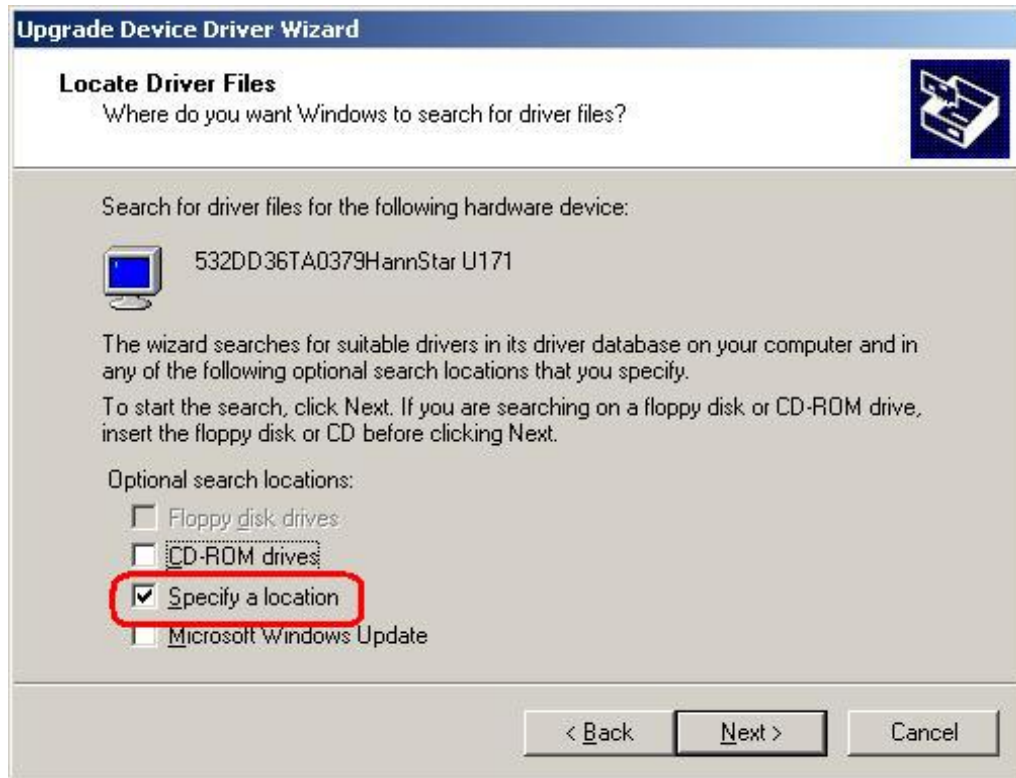

Figure 7-11: Locate Driver Files
Step 9: Select **Specify a Location** in the **Locate Driver Files** window (Figure 7-11).